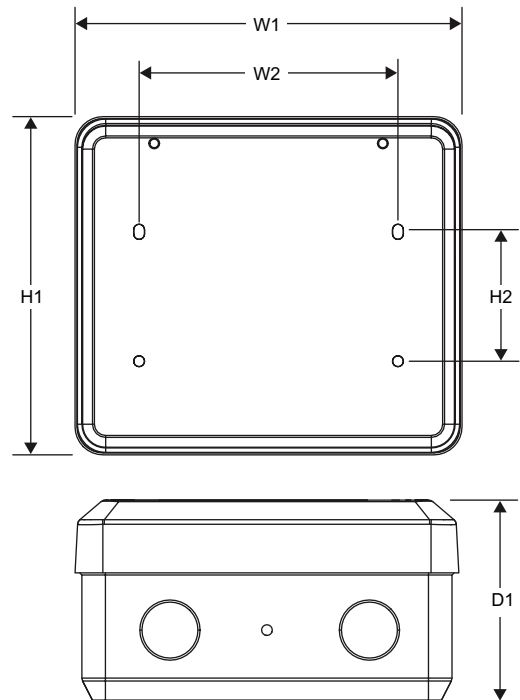

Figure 3-2. Mounting Dimensions
4. Connect line supply wiring to line side of SMM contactor field terminals. See Figure 3-2. Tighten field terminals to **25 in-lbs** (2.8 Nm).
5. Connect load supply wiring to load side of SMM contactor field terminals. See Figure 3-2.